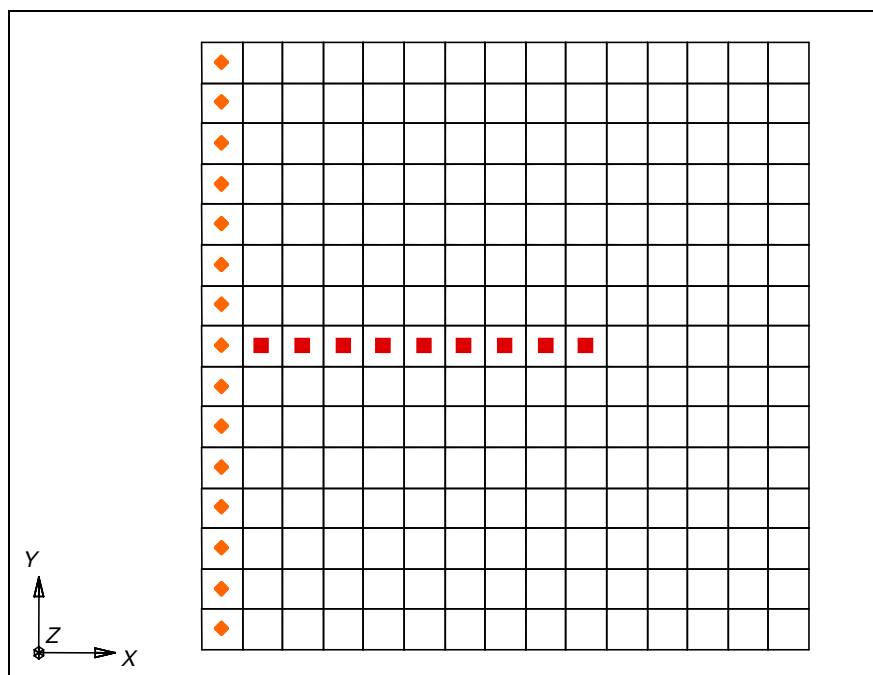

Figure 10-2 Cells to be Selected.
4. Hold down the *Shift* key to invoke the multi-select mode and select the cells on columns 3-10 of the same row as the cell you have already selected (Figure 10-2).